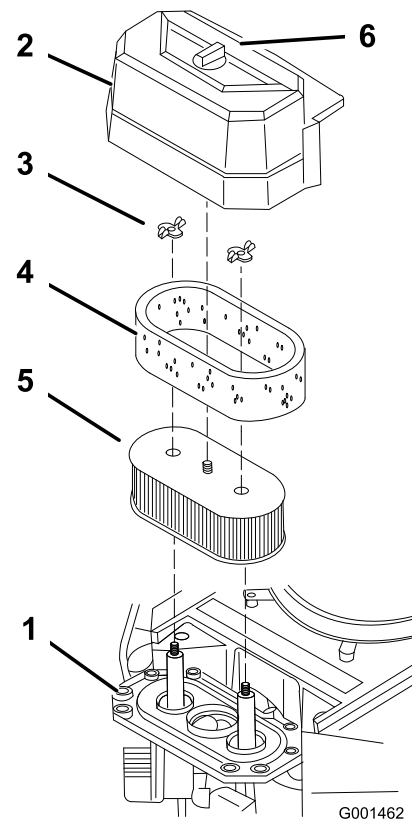

Figure 26
3. Clean around the air cleaner to prevent dirt from getting into the engine and causing damage (Figure 26).
4. Unscrew the cover knob and remove the air cleaner cover (Figure 26).
5. Remove the 2 wing nuts and remove the air cleaner assembly (Figure 26).
6. Carefully pull the foam element off the paper element (Figure 26).
1. Do not clean the paper filter, replace it (Figure 26).
1. Carefully slide the foam element onto the paper air cleaner element (Figure 26).
2. Place the air cleaner assembly onto the air cleaner base and secure it with the 2 wing nuts (Figure 26).
3. Place the air cleaner cover into position and tighten the cover knob (Figure 26).